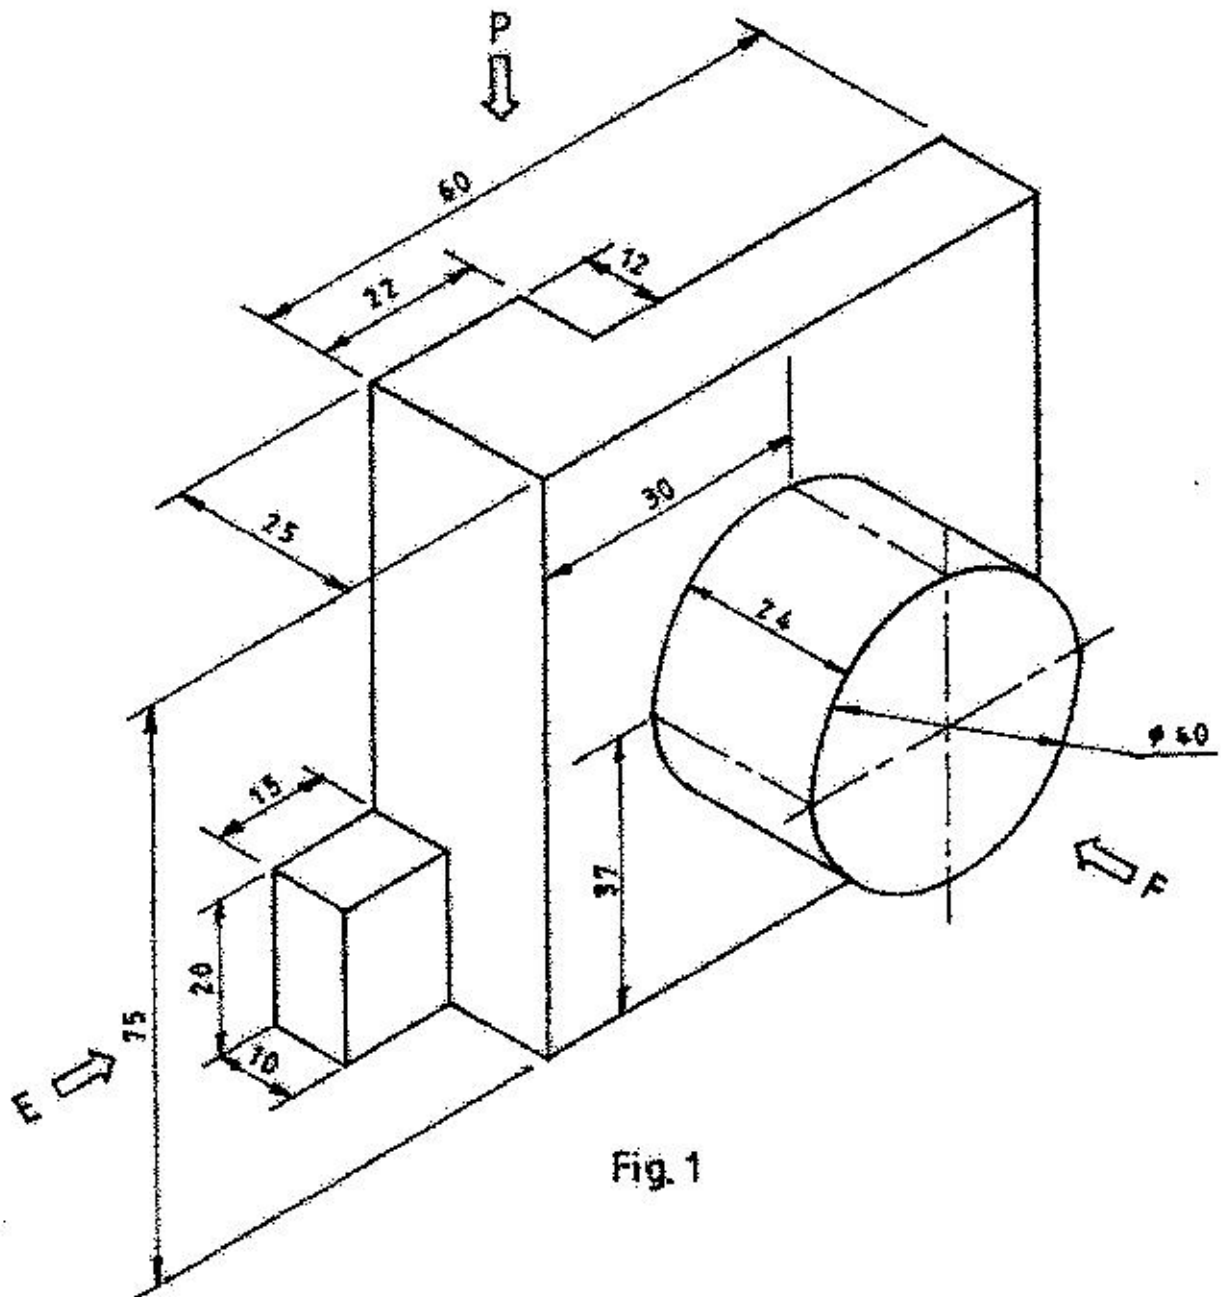

Fig. 1
1. Figure 1 shows a pictorial drawing of a machined object. Draw full size in first angle projection the following views: